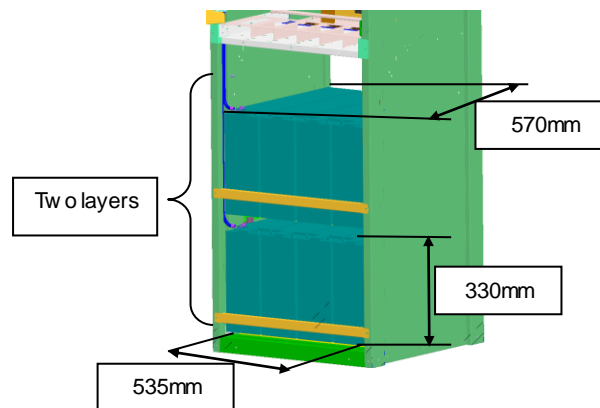

Figure 1-9 Battery compartment structure
(2) NetSure 731 C62-X2 power system is configured with two layers of battery rack, the battery compartment space is shown in Figure 1-9.